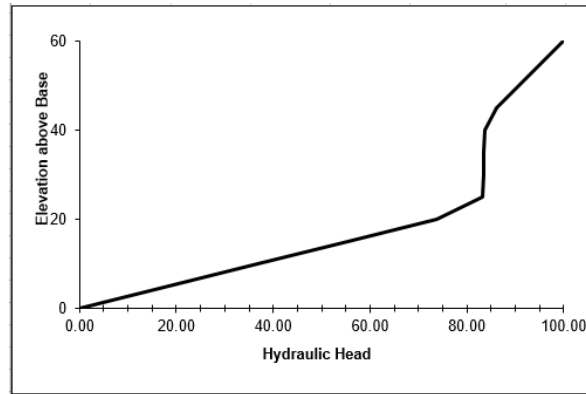

Figure 3 Head profile for a heterogeneous column with 3 Layers,  $K_1=4e-4$ ,  $K_2=1e-2$  &  $K_3=1e-4$
**Answer:** For that, I considered the first layer with  $K_1$  between 42.5-60, a second layer with  $K_2$  between 22.5-42.5, and  $K_3$  between 0-22.5. The head profile is presented in figure 3.
**Answer:** The  $K_{eq}$  ( $2.22e-4$ ) is closer to  $K_3$  ( $1.0e-4$ ) because the layer with lower  $K$  is where more energy is lost in the process. Figure 3 shows that more than 80 units of energy are lost in this layer, where the total energy is 100 units, therefore  $K_{eq}$  must be close to  $K_3$ .